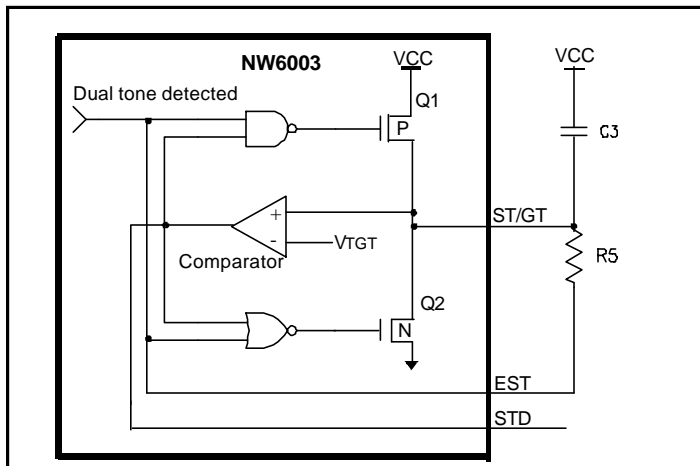
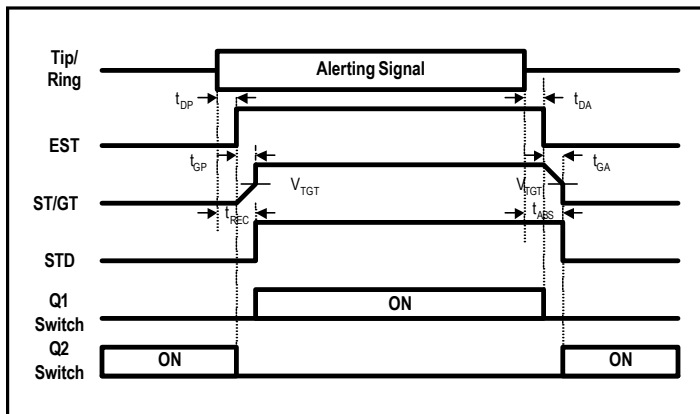
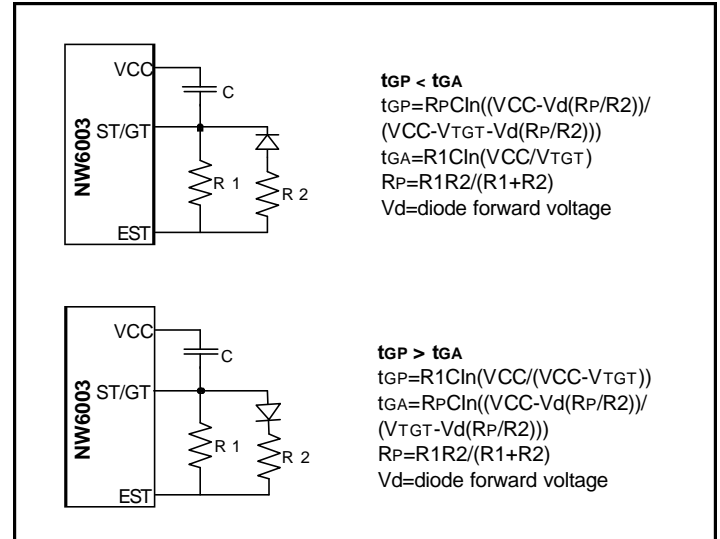

Figure 7. Guard Time Circuit of Dual Tone Alert Signal Detection
Figure 8. Guard Time Waveform
Figure 9. Guard Time Circuits with Unequal Present and Absent Times
Figure 7 shows the operation of the guard time circuit and Figure 8 shows the waveform of the EST, ST/GT and STD pins. The total recognition time is $t_{REC} = t_{DP} + t_{GP}$, where t_{DP} is the tone present detection time and t_{GP} is the tone present guard time. The total absent time is $t_{ABS} = t_{DA} + t_{GA}$, where t_{DA} is the tone absent detection time and t_{GA} is the tone absent guard time. The guard time is the RC time constant for the capacitor charge to VCC or discharge to GND. To get the unequal present and absent guard time, a diode can be connected as shown in Figure 9 to provide different RC time constant (varying resistance value) during charging and discharging.
When the system is first powered up, $\overline{TRIGOUT}$ will be low (C3 at TRIGRC has no initial charge) and STD will be high if PWDN is low (no charge across the capacitor at ST/GT pin in Figure 7), interrupt signal will be generated. The microcontroller should ignore interrupts from these sources on the initial power up until there is sufficient time to charge the capacitors. Also, by asserting PWDN high immediately after system power up, STD will become low and no interrupt will be generated. In power-down mode, EST and comparator output are forced low, the charging switch will turn on, and the capacitor at ST/GT pin will charge up more rapidly.
- 2) By choosing $t_{CA}=15 ms$, t_{ABS} will be 15-25 ms (refer to Figure 8). Current wetting pulse and AC/DC load should be applied right after the STD falling edge.